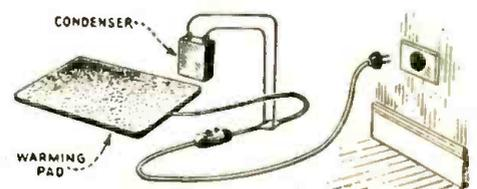
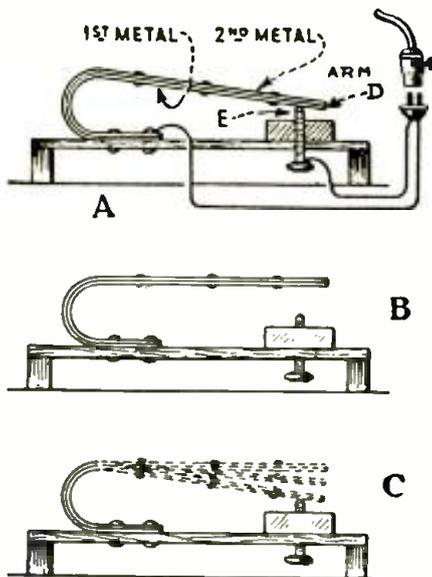

Fig. 12
Fig. 13
*The heating pad, using the make-and-break regulator of Fig. 13, should have a one-mf. condenser, as close up to the thermostat as possible.*
The electrical heating pad, shown in Fig. 12, has a thermostatic unit producing the interference; for its details in a simplified form, see Fig. 13 at A, B, C.
Fig. 12 shows a 1.0-mf. condenser connected across the line and as close as possible to the point where the connection wires come from the pad.